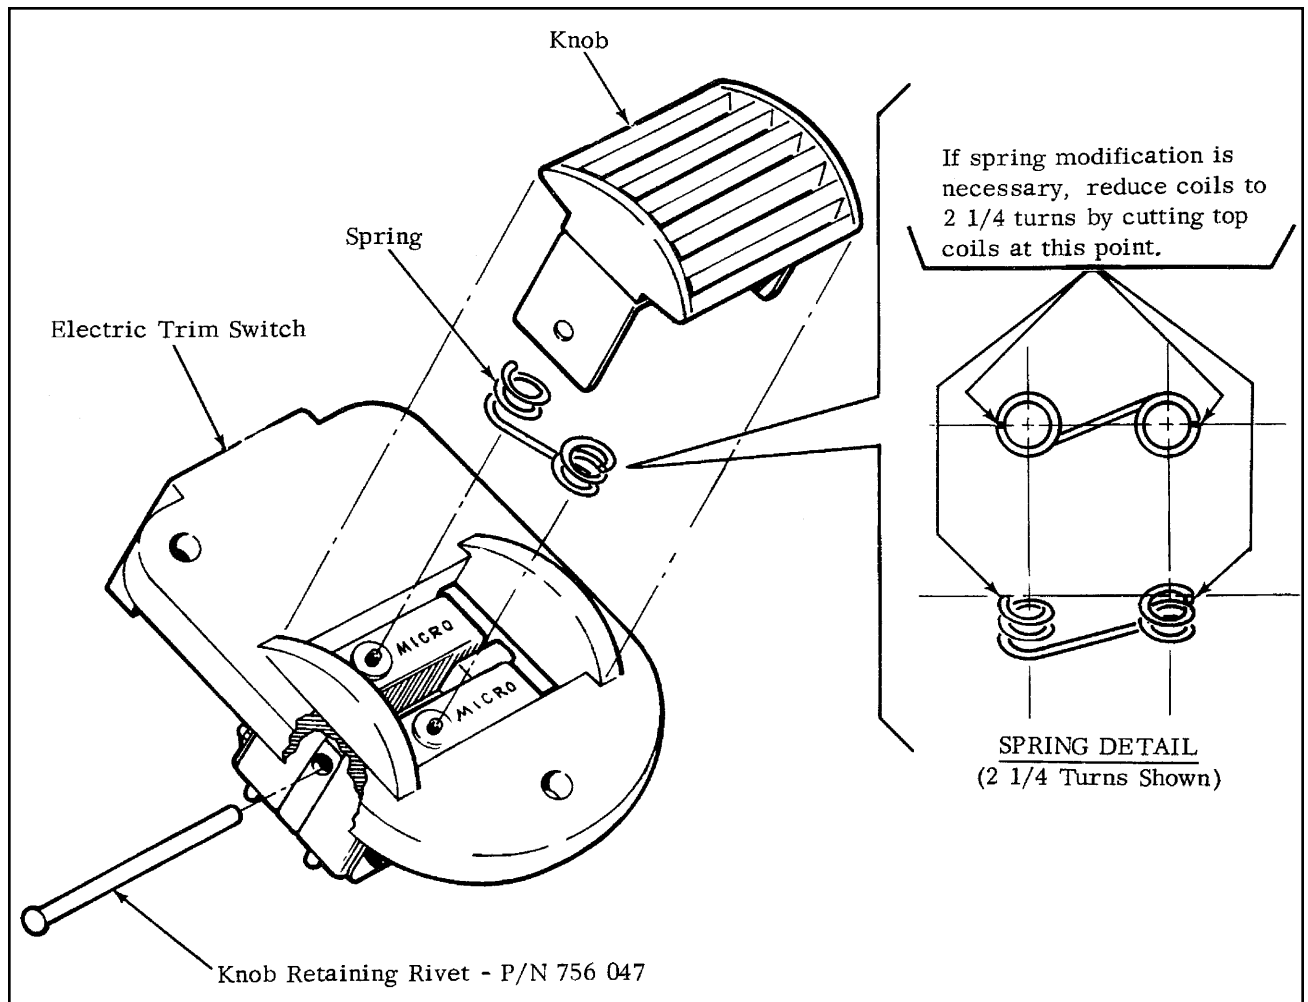

Figure 3-1. Electric Trim Switch Inspection
- a If coils consist of 2 1/4 turns as shown in Figure 3-1, proceed to Step 7.
- b If coils consist of 2 1/2 turns, modify spring by cutting 1/4 turn from top of coils before proceeding. See Figure 3-1.